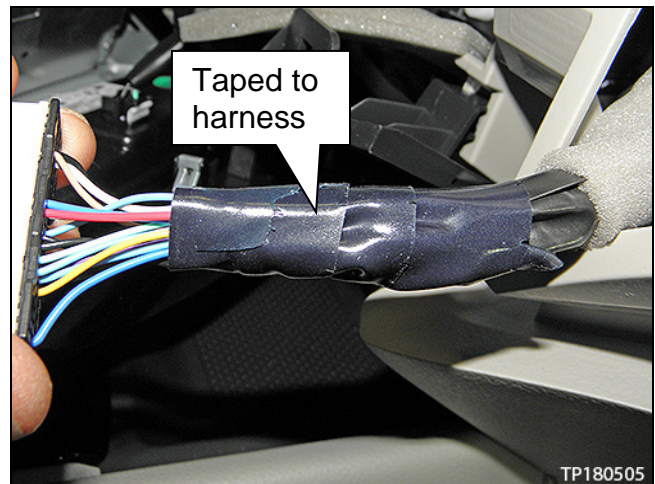

Figure 16
14. Tape the wires to the harness as shown in Figure 16.